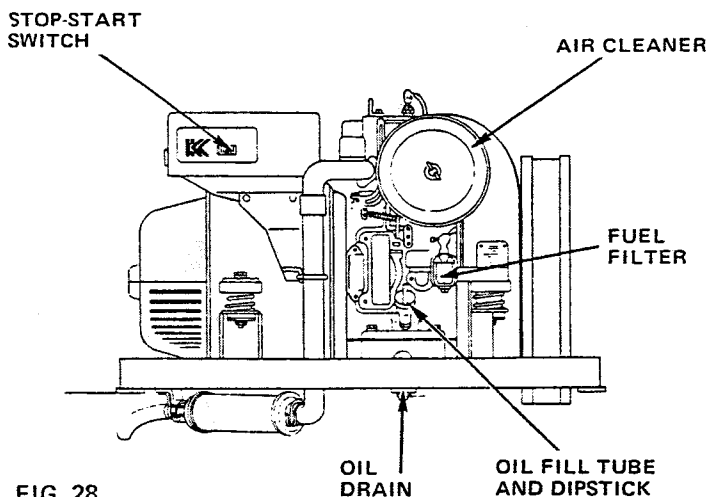

FIG. 28
**PRE-OPERATION** — Before each start up, open the generator compartment and check the oil level (FIG. 28). If required, add oil as directed by the generator manufacturer. Flip the circuit breaker switch which is located in the compartment, to the "On" position.
**GENERATOR** — While the engine is hot, drain oil from the crankcase (FIG. 28). Flush the crankcase with clean, light weight oil as specified in the generator manufacturer's manual. Refill the crankcase with speci-